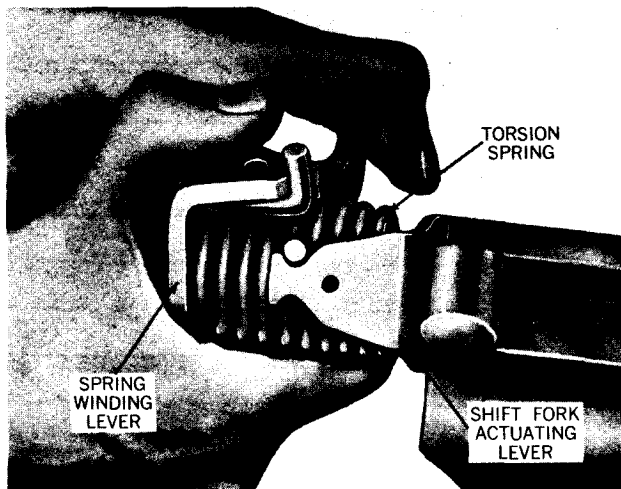

Fig. 51. Assembling Torsion Spring Drive
1. Clamp end of lever shaft in vise jaws. Position shift fork actuating lever, torsion spring and spring winding lever on shaft as shown in figure 51. Grasp spring winding lever by hand, turn lever and push until end of torsion spring engages shift fork actuating lever.